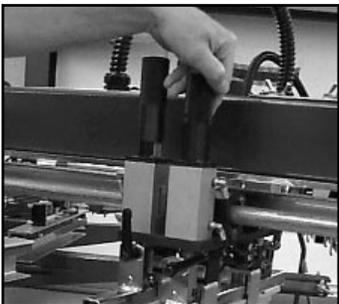

Fig.10
8. Now go ahead and move the head carriage towards the center so that it is located above the center of the pallet. Now adjust the flood pressure knobs counter-clockwise until the edge of the flood bar comes in contact with the surface of the Pallet. (See Fig. 10)